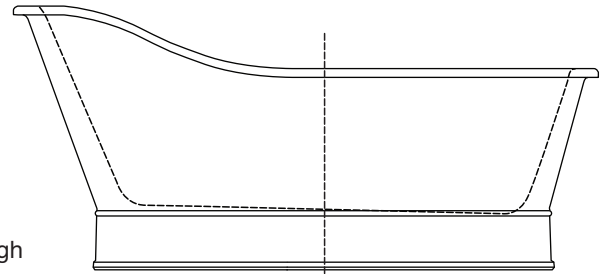

Fig. 1.
- Place the tub on a finished, level floor in the desired location. See **Fig. 1**.